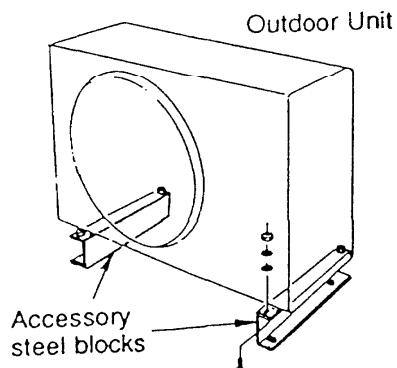

Fig. 5
• provide a solid base; concrete or concrete blocks, about 4" above ground level to reduce humidity and possible water damage in unit and decrease service life. Fig. 5